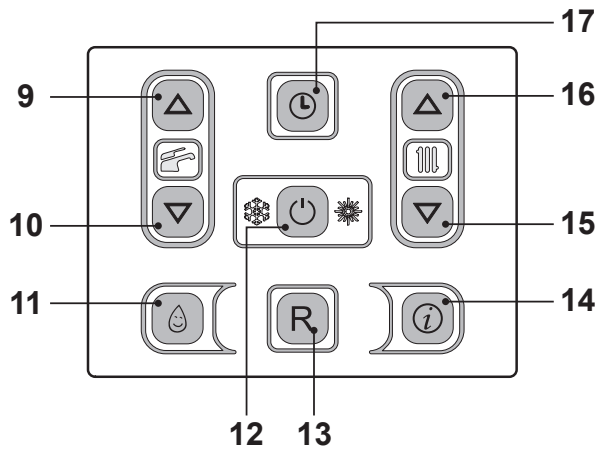

Fig. 2.12
Enter "programming mode" by holding down keys 16 and 17 for 5 seconds (Fig. 2.12) until the LCD display indicates the symbols shown in Fig. 2.11.
Press keys 9 or 10 (Fig. 2.12) to select the individual day (1)(2)(3)(4)(5)(6)(7) or if you want groups of days with the same time bracket scheduling, hold down key 9 until groups (1÷5), (1÷6), (1÷7), (6÷7) are displayed (flashing), then confirm by pressing key 12.